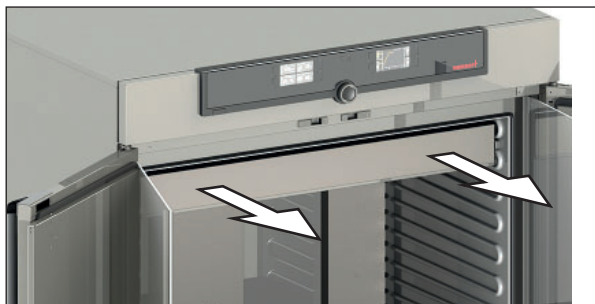

Fig. 33 Pull out the illumination box
3. Slightly lift the illumination box and carefully pull it out of the appliance (Fig. 33).